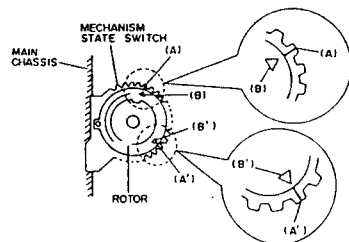

Fig. 3-1
### 2. PHASE MATCHING IN ASSEMBLY (Figs. 3-1, 3-2, 3-3, 3-4)
- 1) Align marks (A) and (A') on the mechanism state switch and marks (B) and (B') on the rotor. (See Fig. 3-1)